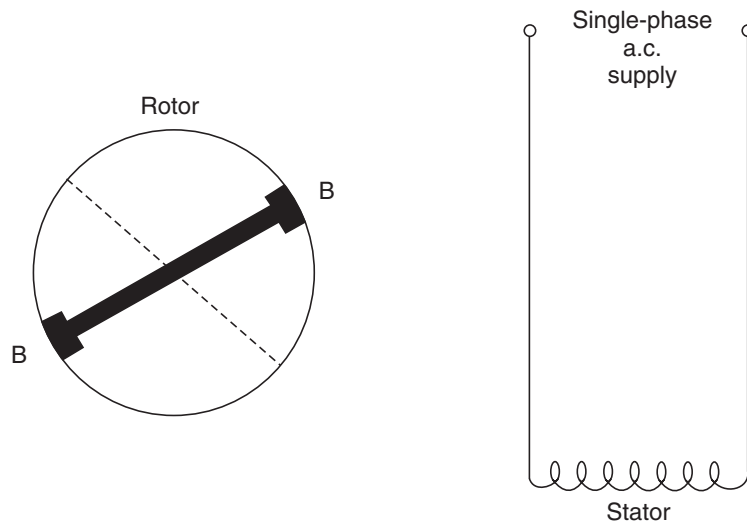

Fig. 12. Repulsion motor.
A repulsion motor in its simplest form consists of a *field comprising a distributed winding, housed in slots, in a smooth-cored stator and an armature carrying a distributed winding connected to a commutator*. The stator winding, which produces the *main field*, is connected to the main supply. The armature or rotor winding is not connected electrically to the main circuit, but the brushes, which are set at an angle to the direction of the main flux, are short-circuited as shown in Fig. 12.
- The direction of rotation of a simple repulsion motor may be reversed by swinging the brushes into the position shown *dotted* in Fig. 12.